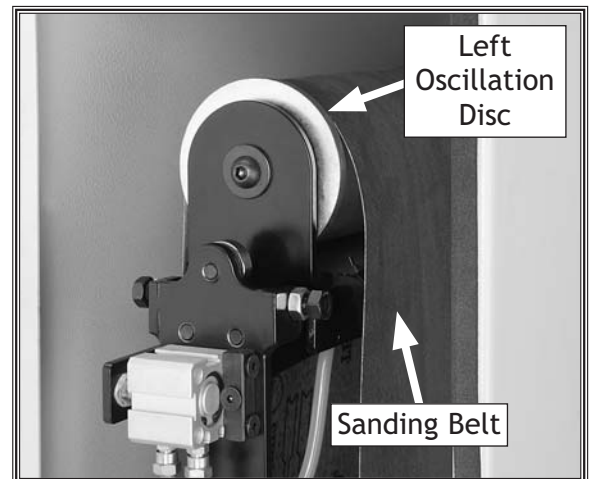

Figure 19. Proper position of the sanding belt on the upper roller.
5. Slide the new sanding belt onto the upper roller and sanding drum, then position it on the upper roller so that it is just past the left oscillation disc, as shown in **Figure 19**.